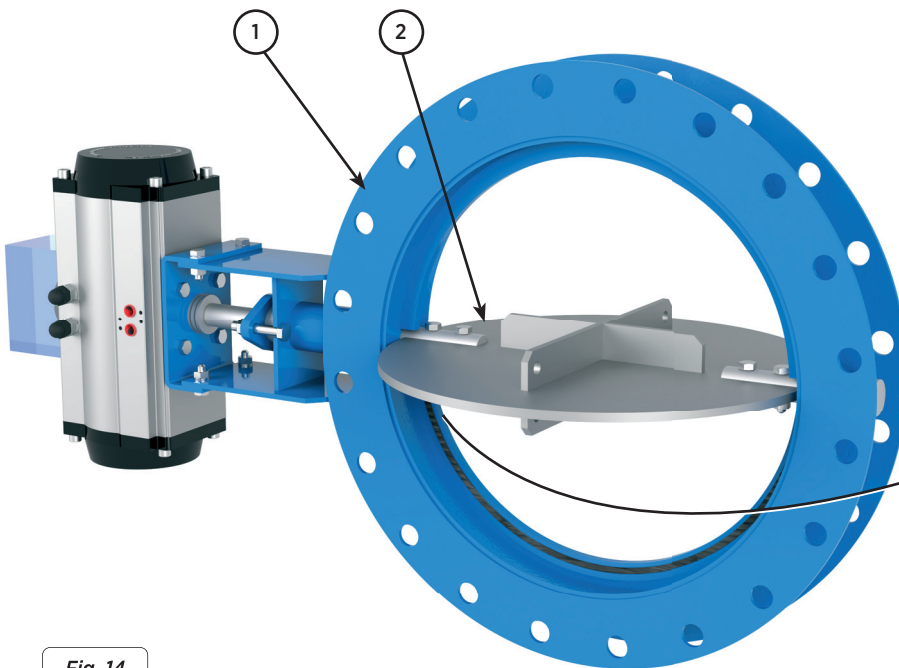

Fig. 14
- 3.- Place the swing check (2) in open position (fig. 14) in order to access the seal joints (10). These fit in the half-moon rims in the body (1).